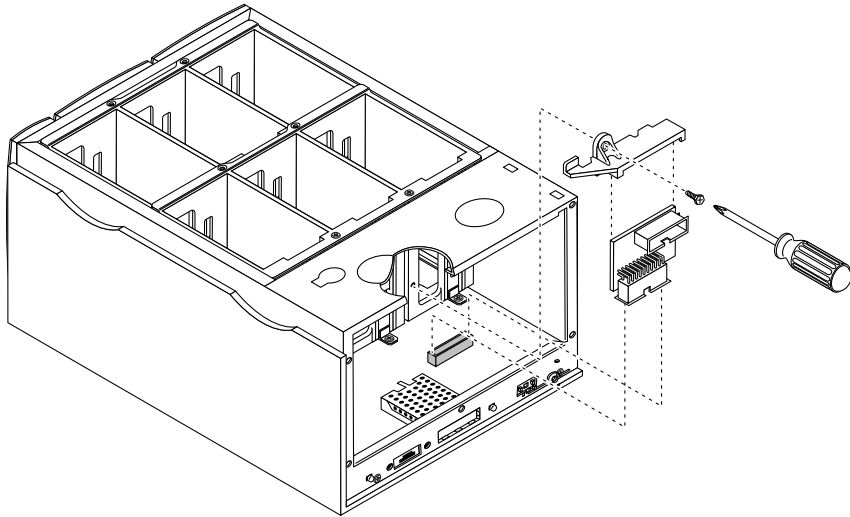

FIGURE 3-26 Replacing the Daughter Board and the Daughter Board Clip
3. Install the daughter board into the main logic board (FIGURE 3-26).
4. Install the daughter board clip onto the daughter board. Tighten the screws on the clip to the drive cage (FIGURE 3-26).